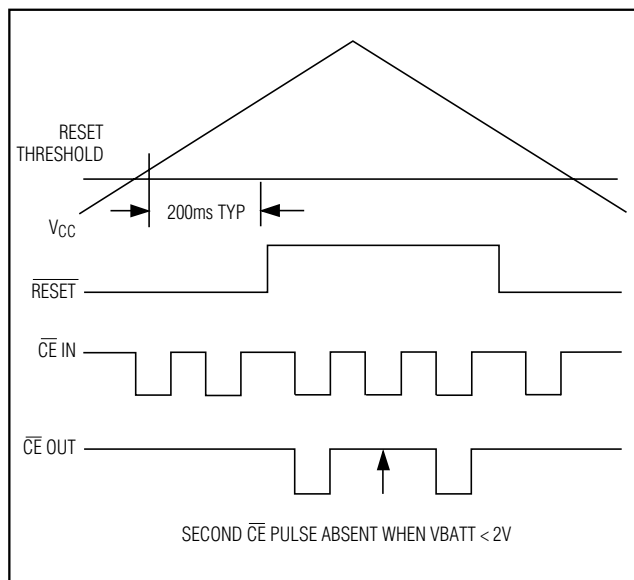

Figure 11. Backup-Battery Monitor Timing Diagram
The MAX791 low-battery voltage function monitors VBATT. Low-battery detection of 2.0V ±0.15V is monitored only during the reset-timeout period (200ms) that occurs either after a normal power-up sequence or after the MR reset input has been returned to its high state. If the battery voltage is below 2.0V, the second CE pulse is inhibited after reset timeout. If the battery voltage is above 2.0V, all CE pulses are allowed through the CE gate after the reset timeout period. To use this function, after the 200ms reset delay, write 00 (HEX) to a location using the first CE pulse, and write FF (HEX) to the same location using the second CE pulse following RESET going inactive on power-up. The contents of the memory then indicates a good battery (FF) or a low battery (00) (Figure 11).